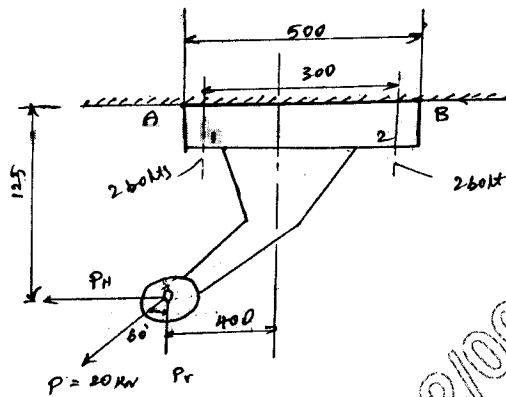

Fig.Q6(b)
- b. Suggest the suitable size of bolts if the bracket shown in Fig.Q6(b) is subjected to a load of 20 kN at 60° from the vertical. The allowable tensile stress in the bolt is 120 MPa. The bracket is fixed using 4 bolts. (14 Marks)